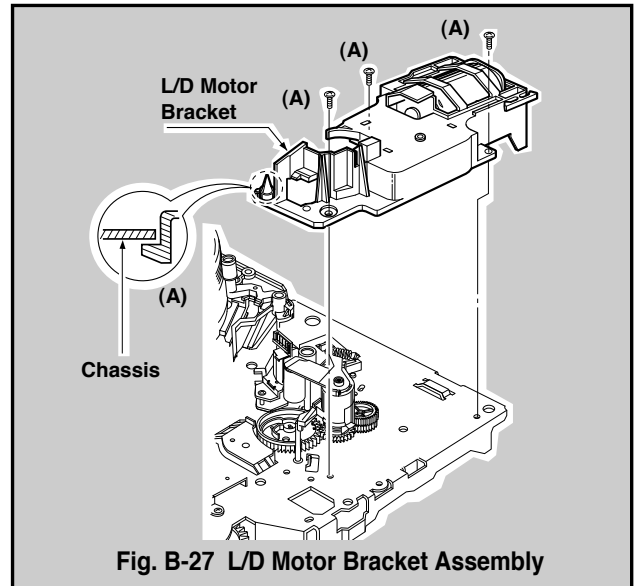

Fig. B-27 L/D Motor Bracket Assembly
27. L/D Motor Bracket Assembly (Fig. B-27)